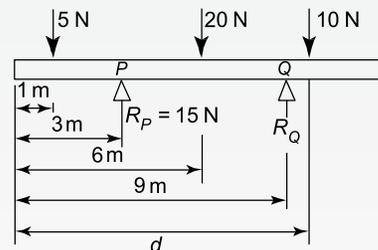

Figure RT2.2
11. For the beam shown in Figure RT2.2 calculate (a) the force acting on support Q , (b) distance d , neglecting any forces arising from the mass of the beam. (7)